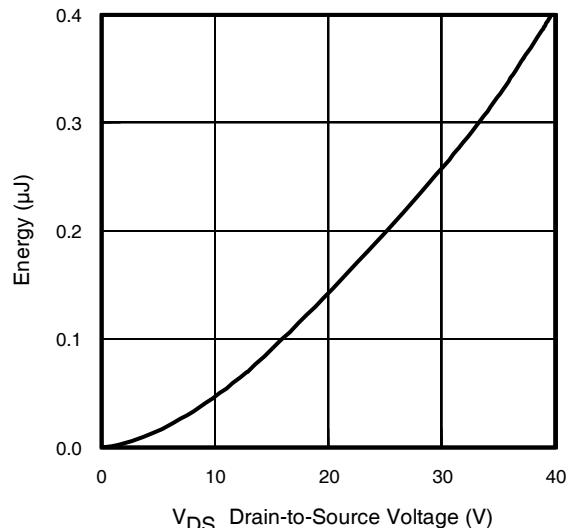

Fig 12. Typical C_{oss} Stored Energy
| C_{oss} eff. (ER) | Effective Output Capacitance (Energy Related) | — | 570 | — | | $V_{GS} = 0\text{V}$, $V_{DS} = 0\text{V}$ to 32V ⑦ See Fig. 12 |